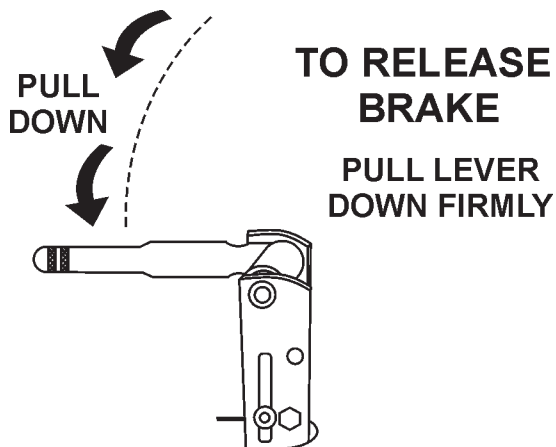

**Figure 14. Ignition Switch**
4. Insert the ignition key into the ignition (Figure 14), place key in the **start** position, when engine starts release key.